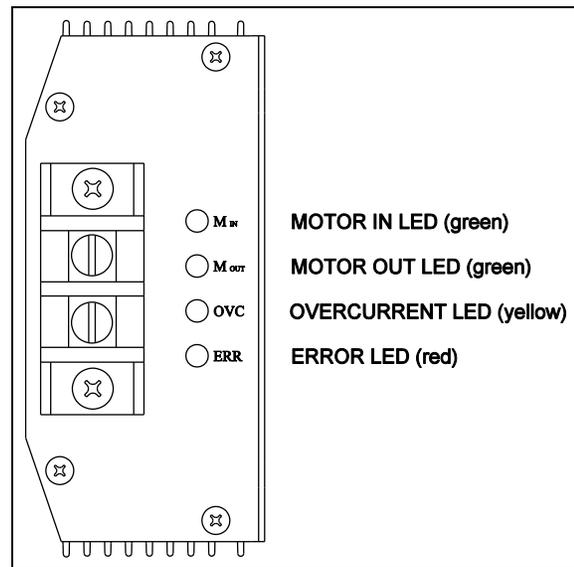

FIGURE 38 : MOTOR CONTROLLER LED PANEL
7. Check the front slide-out motor controller error LED (figure 38). The LED must blink normally once every 2 seconds. If it flash once every second or faster, the ECU of the motor controller didn't change to ECU2. Repeat the procedure from step 5.
7. Check the rear slide-out motor controller error LED (figure 38). The LED must blink normally once every 2 seconds. If it flashes once every second or faster, the ECU of the motor controller didn't change to ECU4. Repeat the procedure from step 5.